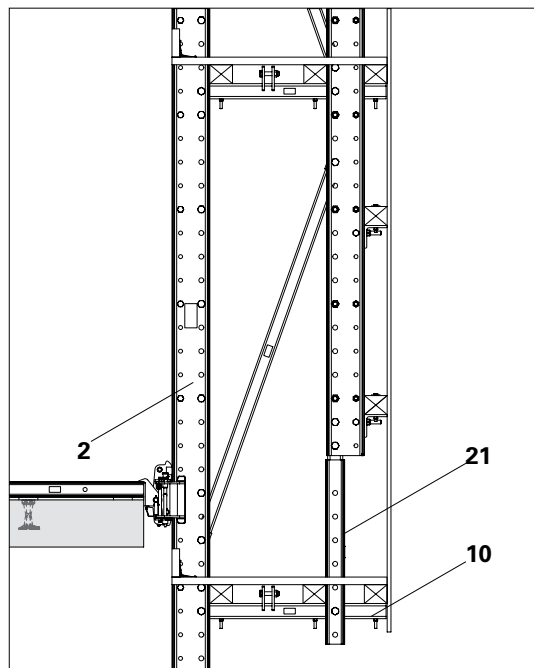

Fig. B1.08
If only a short extension of Enclosure Post 1 is required, the finishing platform can be suspended by means of a Climbing Rail Extension 100 RCS (21). (Fig. B1.08)